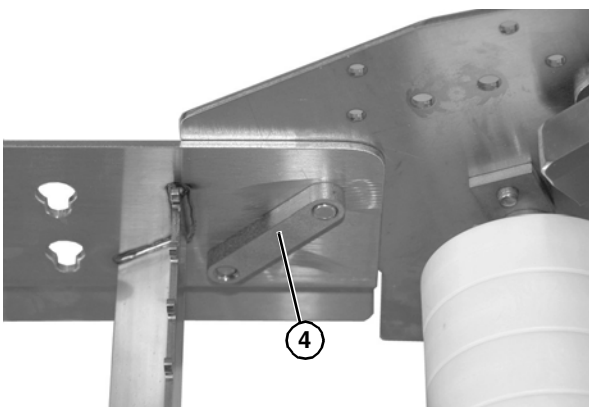

**Figure 6**
1. Attach upper knuckle (**Figure 6, item 1**) to frame (**Figure 6, item 2**) by using two cap screws (**Figure 6, item 3**) on each side of upper knuckle assembly.